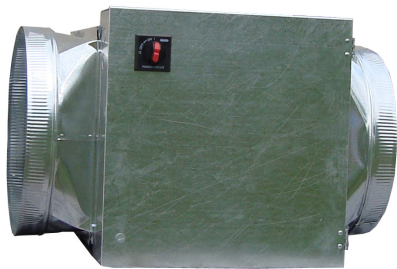
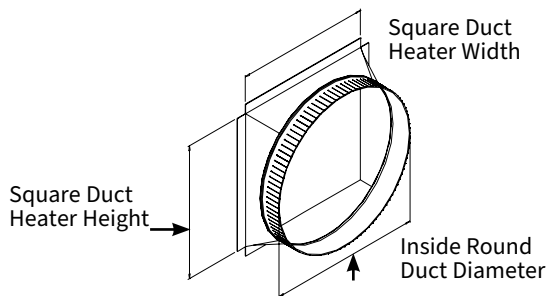

Figure 52. Open Coil heater with round duct transitions.
Figure 53. Square to round sheet metal transitions.
**Round Duct Construction** – Indeeco manufactures UL listed open coil duct heaters specifically designed for installation to commercially rated round ducts. Heaters are available for installation to spiral single and double wall or snap-lock round sheet metal ducts with inside diameters of 6, 8, 10, 12, 14, 16, 18, 20, 22, 24, 26 and 28 inches. Two square to round male galvanized steel transitions, Figure 53, are supplied for field installation to the inlet and outlet of the duct heater. The transitions are attached directly to the flanges of the heater and to the round duct using sheet metal screws (see Figure 52). The Indeeco transitions have been approved by UL to provide uniform airflow across the open coil elements to avoid hot spots, which could affect the performance of the heater.